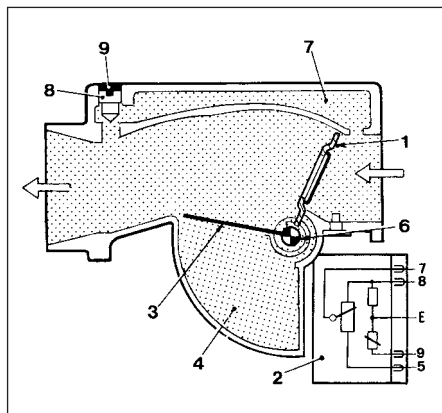

Fig. 13.39 Sectional view of airflow meter - 1301 cc Turbo ie engine (Sec 9C)
9 The intake air exerts a force on the floating plate (1) (Fig. 13.39) which is connected to a potentiometer (2).